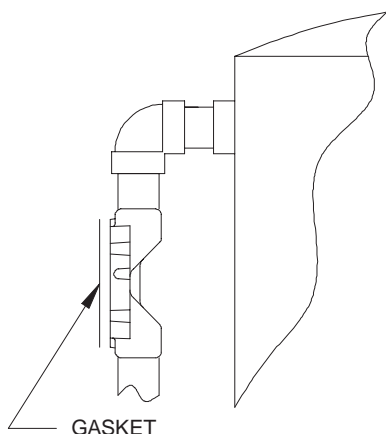

Figure 6
1. Position the valve body on the side mount adapter with the gasket in place, Figure 6.